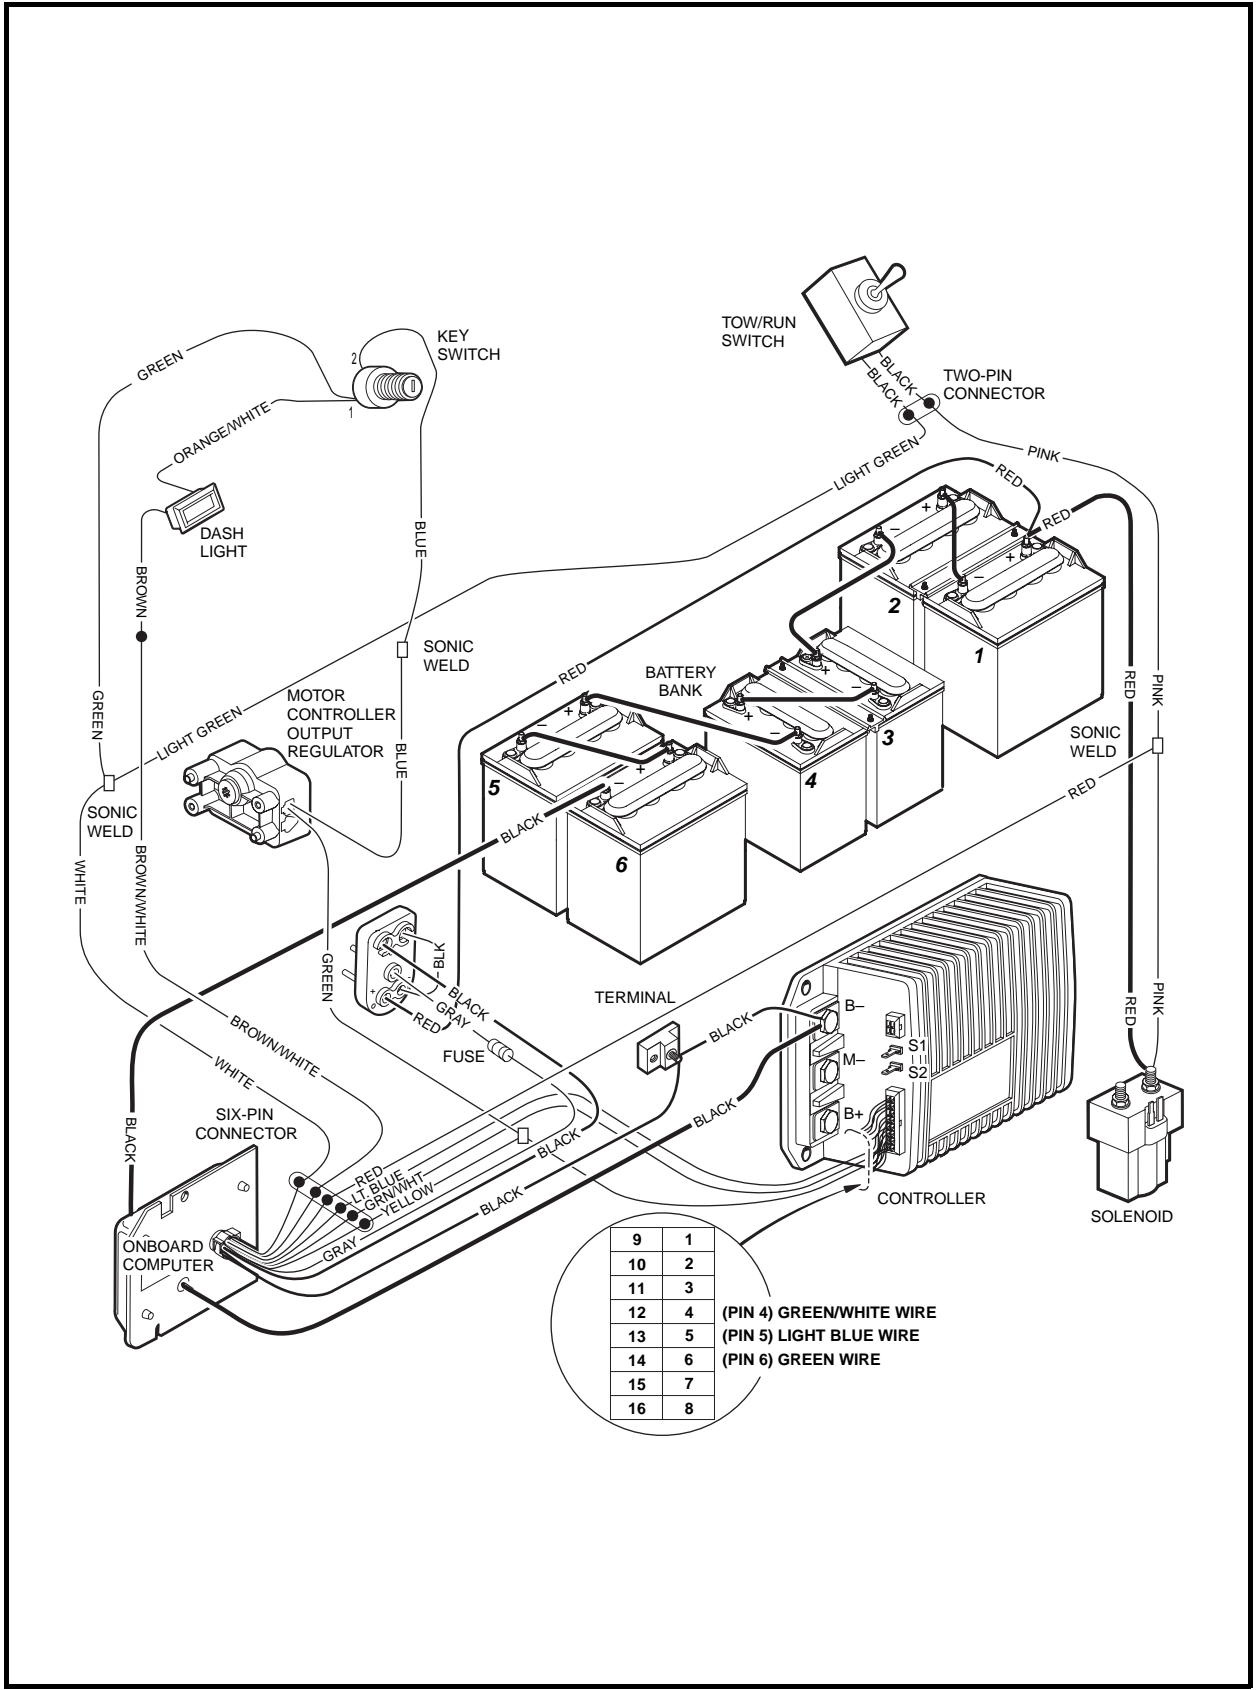

Figure 11-1 Onboard Computer Circuit
- Onboard computer circuit (**Figure 11-1, Page 11-3**)